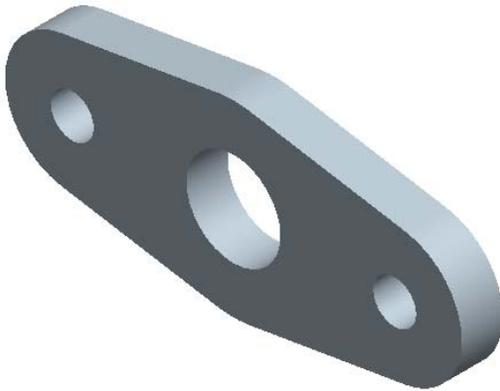
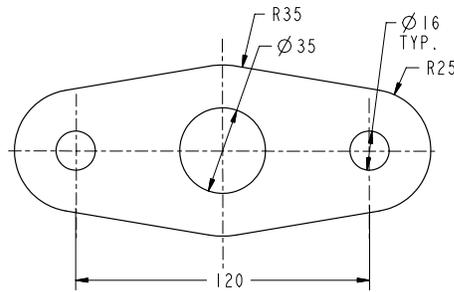

Figure 2-28 Model for Tutorial 2
Figure 2-29 Sketch of the model
In this tutorial, you will draw the sketch for the model shown in Figure 2-28. The sketch is shown in Figure 2-29. **(Expected time: 30 min)**
4. Modify all dimensions. Refer to Figure 2-29 for dimension values.